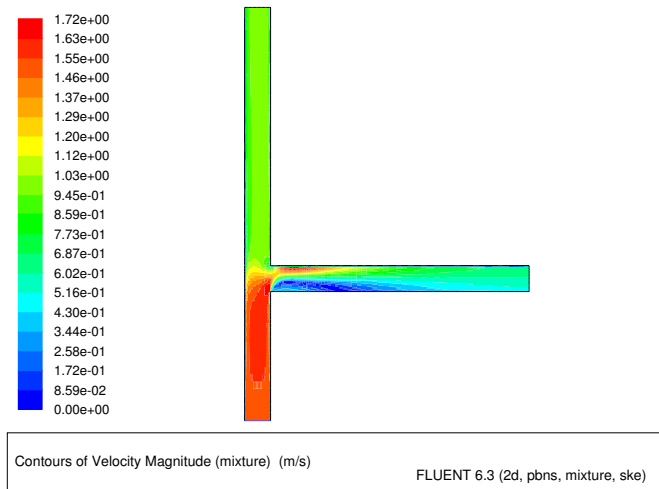

Figure 19.4: Contours of Velocity Magnitude
2. Display contours of velocity magnitude (Figure 19.4).